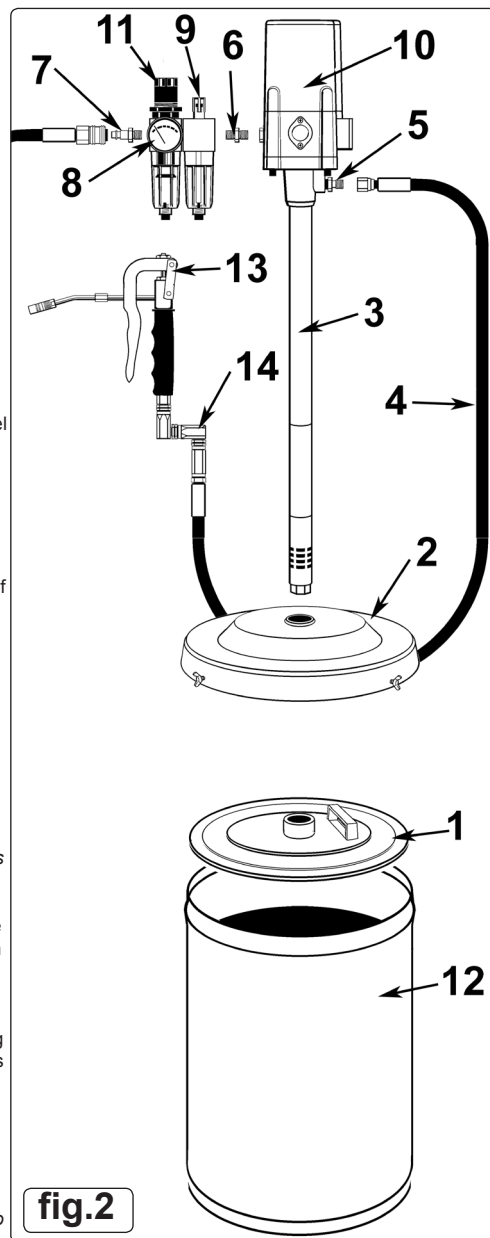

fig.2
Remove items from carton and identify pieces from contents list below using fig.1 and fig.2 as a reference. Contact your supplier immediately if any pieces are missing or damaged.
5.2. Assembling the pump unit (Refer to fig.2)